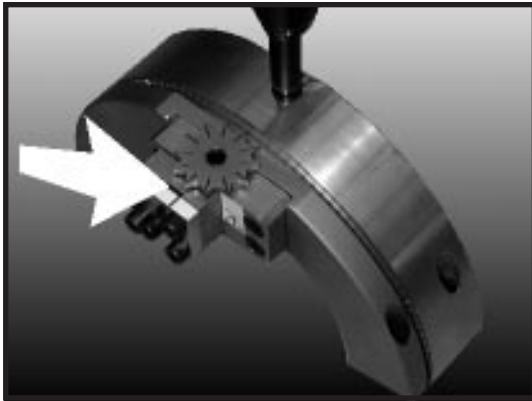

FIGURE 3
3. Align Starwheel's point to line on sticker as shown (Figure 3).